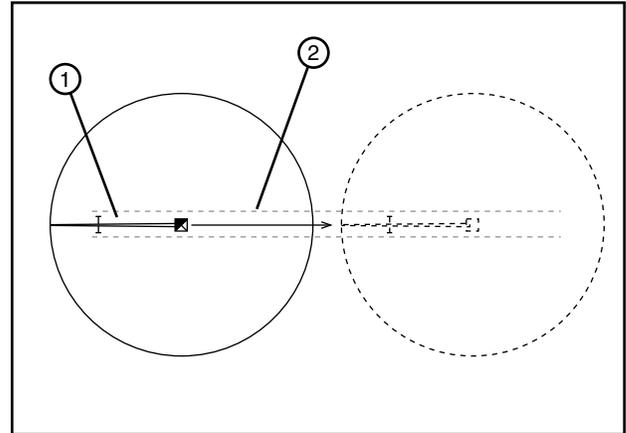

Figure 47-1 1. Machine
1. Position the machine in the tow lane. When positioning the center pivot, always use the “STOP” button on the control panel to stop the center pivot. NEVER stop the center pivot with the control panel or service disconnect switches. See Figure 47-1.